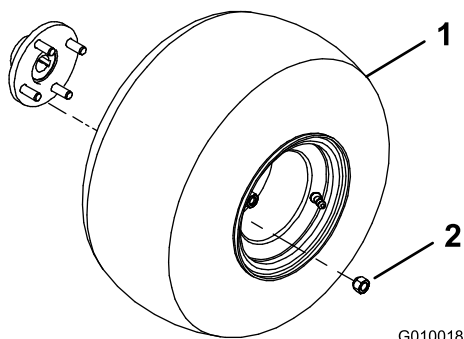

Figure 4
2. Assemble a wheel assembly onto each rear-wheel hub with the 4 lug nuts (Figure 4).